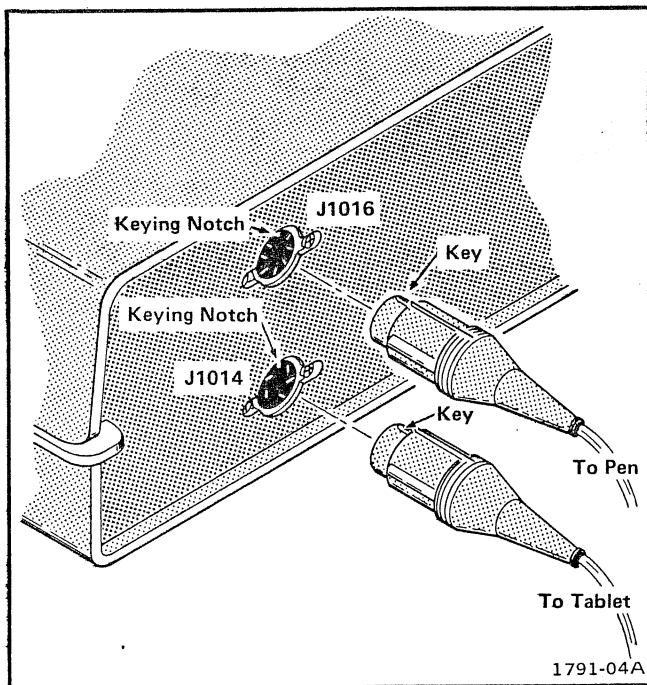

Fig. 2-1. Pen and Tablet connection.
1. Connect the cable from the pen to J1014 on the rear panel of the Power Module. There is a keying notch on the top of the rear panel connector, which is to align with the key on the tablet cable connector (Fig. 2-1).
2. Connect the cable from the pen to J1016 on the rear panel of the Power Module. There is a keying notch on this connector also, to align with the key on the pen cable connector (Fig. 2-1).